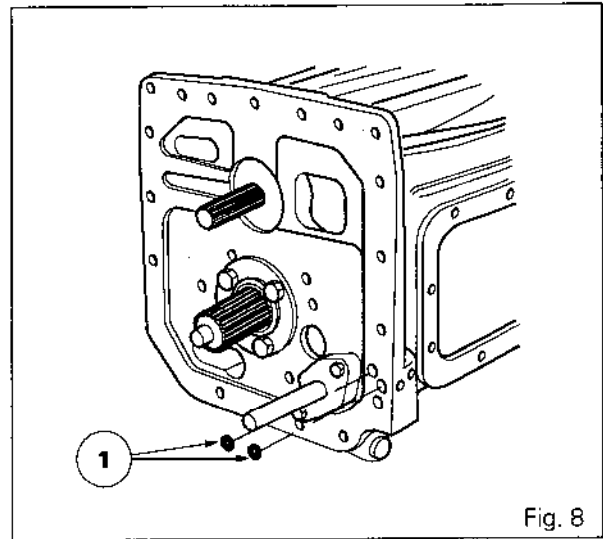

Fig. 8
29. Replace the O'rings (1) on the Hare/Tortoise lines (Fig. 8).